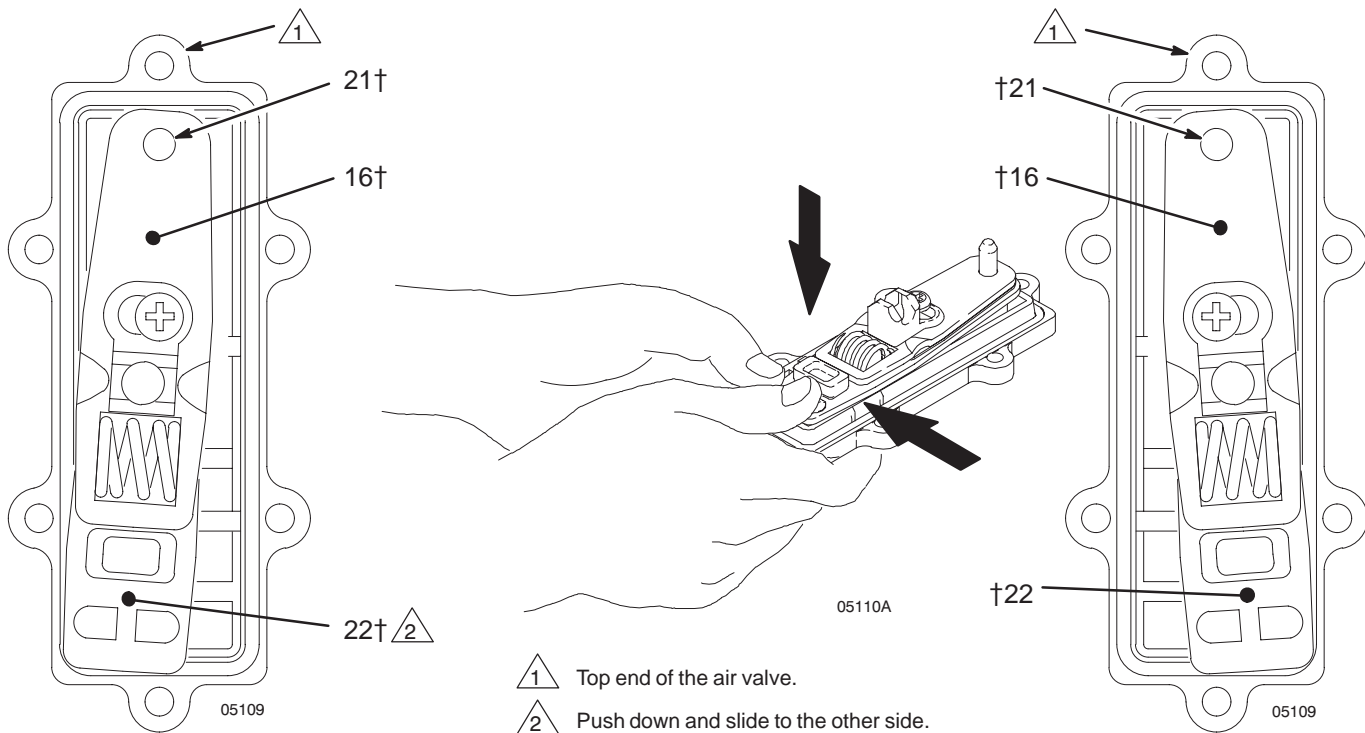

Fig. 13
13. Check if either of the two pilot pins (26) are protruding out into the air valve cavity. Push them back in as far as possible.
14. If one of the pins is still protruding, make sure the air valve is shifted **away from** that pin's side of the cavity. To shift the valve, push down on the detent link (22) and slide it to the other side with your fingers (see Fig. 13).